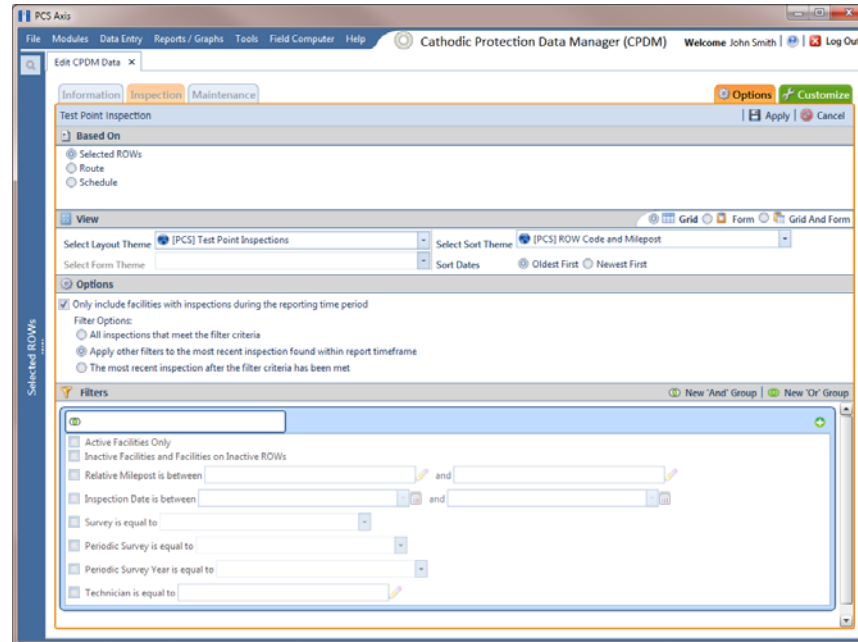

Figure 8-17. Options
- 6 Click  **Save**, then click the **Options** tab  to open the options page (Figure 8-17, page 365).